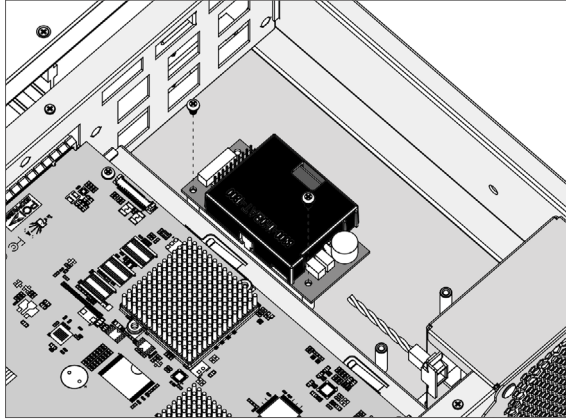

Figure C-3, Secure the Battery Module
2. After removing the cover, then secure the battery pack module (ARC-6120-BAT121-7, reference NO.1 in Figure C-1) in the bottom of the enclosure (for ARC-7308/ARC-7312), as shown in Figure C-3.